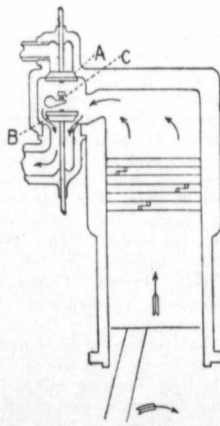

FIG. 6.
the valve (A) closes and the piston on the return stroke (figure 4) compresses the mixture in the cylinder and when near the top ignition takes place at (C). The piston now travels down on the working stroke (figure 5) and when approaching the lower end the exhaust valve (B) is opened. The exhaust valve is held open during the entire up-stroke (figure 6,) and the piston pushes the exhaust all out; or to be exact, not quite all for the clearance space at the top has always some gases left in, but you can see that it clears the exhaust far better than the two cycle does.
The operation of a four cycle engine may be understood more fully by figures 3, 4, 5 and 6. Supposing we have a four cylinder motor, the cranks of whose four pistons are so fixed that counting from figure 3 to figure 6 we have cylinders representing the four operations of the cycle; that is to say the suction or supply stroke, figure 3, the compression stroke, figure 4, the explosion or working stroke figure 5, the exhaust figure 6.